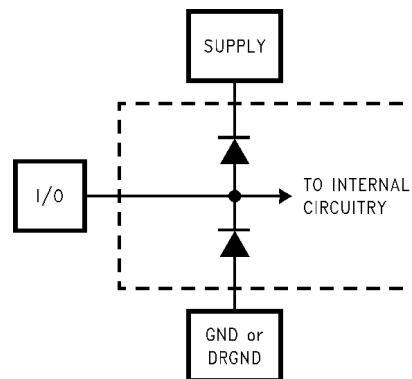

Figure 1.
- (1) The inputs are protected as shown below. Input voltage magnitudes above V_A or below GND will not damage this device, provided current is limited per ⁽¹⁾. However, errors in the A/D conversion can occur if the input goes above V_A or below GND by more than 100 mV. As an example, if V_A is 4.75V, the full-scale input voltage must be ≤4.85V to ensure accurate conversions. See Figure 1
- (2) To ensure accuracy, it is required that $|V_A - V_D| \leq 100\text{ mV}$ and separate bypass capacitors are used at each power supply pin.
- (3) With the test condition for $V_{REF} = +2.0V$ (4V_{P-P} differential input), the 12-bit LSB is 977 μV.
- (4) Typical figures are at $T_A = T_J = 25^\circ\text{C}$, and represent most likely parametric norms. Test limits are specified to TI's AOQL (Average Outgoing Quality Level).
- (5) Integral Non Linearity is defined as the deviation of the analog value, expressed in LSBs, from the straight line that passes through positive and negative full-scale.
- (6) Optimum performance will be obtained by keeping the reference input in the 1.8V to 2.2V range. The LM4051CIM3-ADJ (SOT-23 package) is recommended for this application.
- (1) The inputs are protected as shown below. Input voltage magnitudes above V_A or below GND will not damage this device, provided current is limited per ⁽¹⁾. However, errors in the A/D conversion can occur if the input goes above V_A or below GND by more than 100 mV. As an example, if V_A is 4.75V, the full-scale input voltage must be $\leq 4.85V$ to ensure accurate conversions. See Figure 1
- (2) To ensure accuracy, it is required that $|V_A - V_D| \leq 100$ mV and separate bypass capacitors are used at each power supply pin.
- (3) With the test condition for $V_{REF} = +2.0V$ (4V_{P-P} differential input), the 12-bit LSB is 977 μV .
- (4) Typical figures are at $T_A = T_J = 25^\circ C$, and represent most likely parametric norms. Test limits are specified to TI's AOQL (Average Outgoing Quality Level).
- (5) Typical figures are at $T_A = T_J = 25^\circ C$, and represent most likely parametric norms. Test limits are specified to TI's AOQL (Average Outgoing Quality Level).
- (6) I_{DR} is the current consumed by the switching of the output drivers and is primarily determined by load capacitance on the output pins, the supply voltage, V_{DR} , and the rate at which the outputs are switching (which is signal dependent). $I_{DR} = V_{DR}(C_0 \times f_0 + C_1 \times f_1 + \dots + C_{11} \times f_{11})$ where V_{DR} is the output driver power supply voltage, C_n is total capacitance on the output pin, and f_n is the average frequency at which that pin is toggling.
- (7) Excludes I_{DR} . See previous note.
- (1) The inputs are protected as shown below. Input voltage magnitudes above V_A or below GND will not damage this device, provided current is limited per ⁰. However, errors in the A/D conversion can occur if the input goes above V_A or below GND by more than 100 mV. As an example, if V_A is 4.75V, the full-scale input voltage must be $\leq 4.85V$ to ensure accurate conversions. See Figure 1
- (4) Timing specifications are tested at TTL logic levels, $V_{IL} = 0.4V$ for a falling edge and $V_{IH} = 2.4V$ for a rising edge.
- (5) Typical figures are at $T_A = T_J = 25^\circ\text{C}$, and represent most likely parametric norms. Test limits are specified to TI's AOQL (Average Outgoing Quality Level).